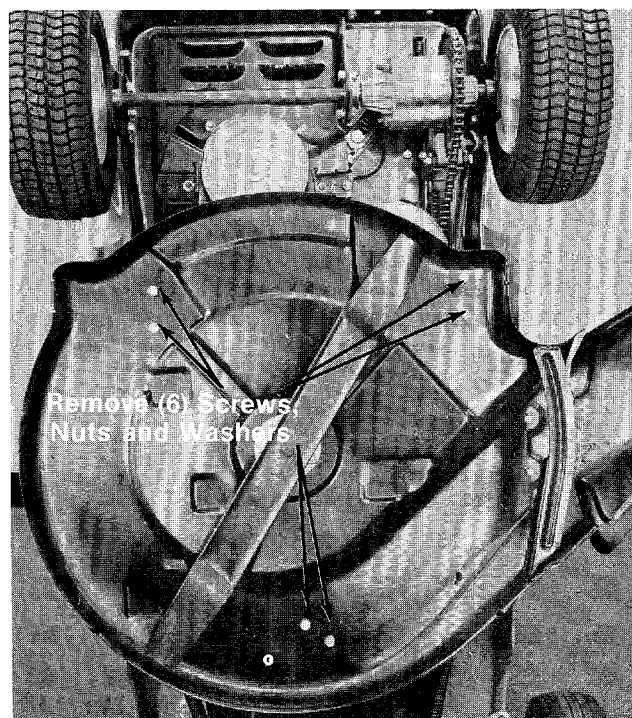

FIGURE 23. DECK REMOVAL
3. Remove six hex screws, nuts and lock washers holding the deck. See figure 23.